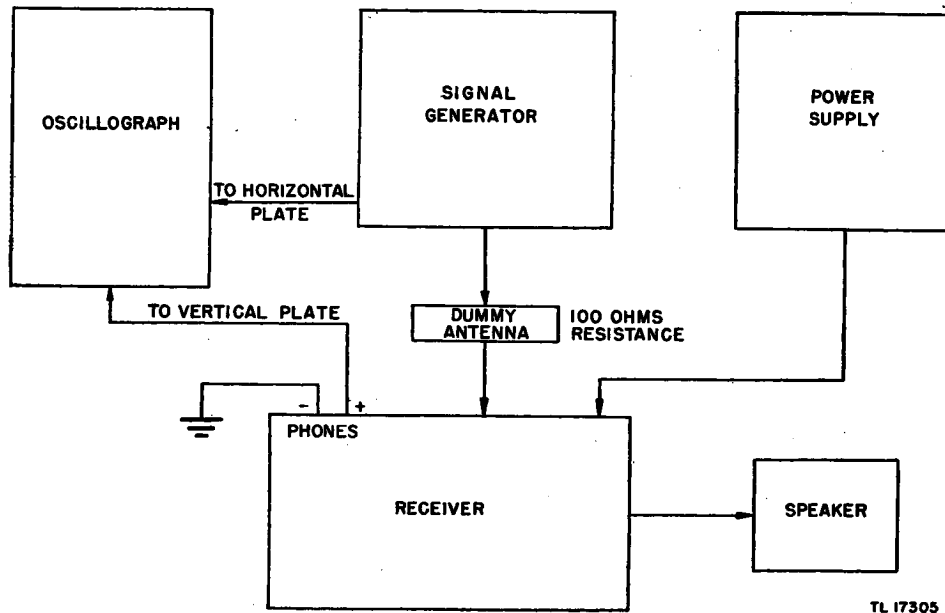

Figure 20. Block diagram of alignment set-up using oscillograph.
18. Alignment with Frequency-Modulated Signal Generator and Oscillograph (fig. 20)